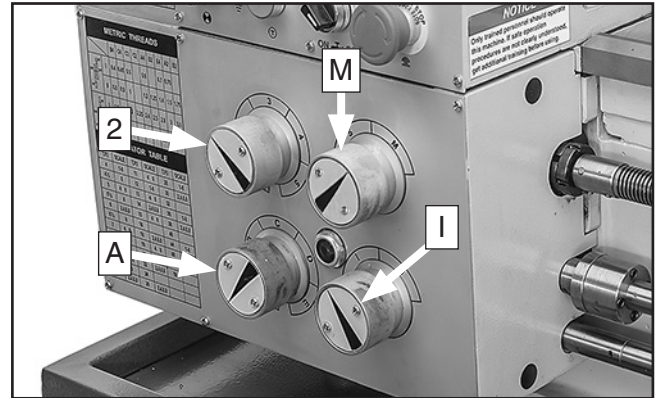

Figure 80. Gearbox dial settings for 32 TPI.
4. Move quick-change gearbox dials to positions **A2MI**, as shown in **Figure 80**.